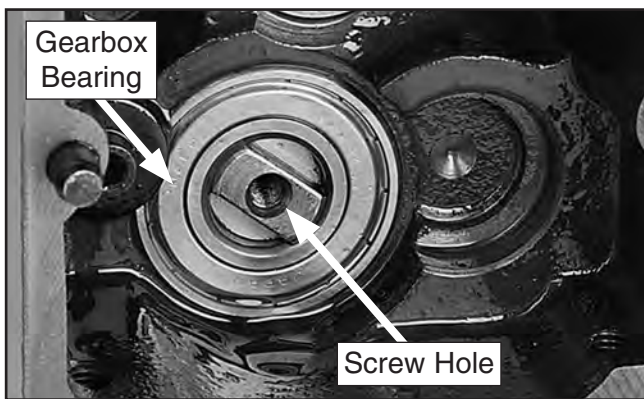

Figure 10. Cutterhead removal.
25. Insert the spare M6-1 screw or bolt into the hole at the gearbox end of the cutterhead shown in **Figure 10**.
3. Install the cutterhead in the gearbox by fitting it into place, and seat it by tapping on the pulley end with a wooden or rubber mallet. Ensure the cutterhead end is flush with the inside face of the gearbox bearing, as previously shown in **Figure 10**.